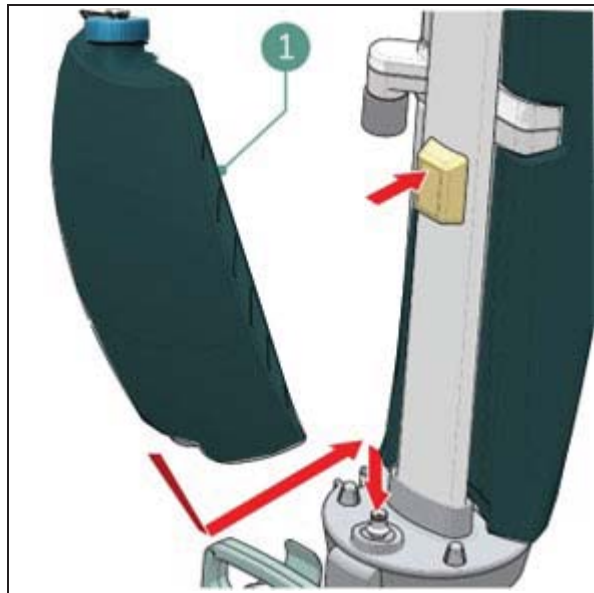

Figure 14
5. Put the tank on the i-mop® Lite with the valve first (Figure 14, pos 1).